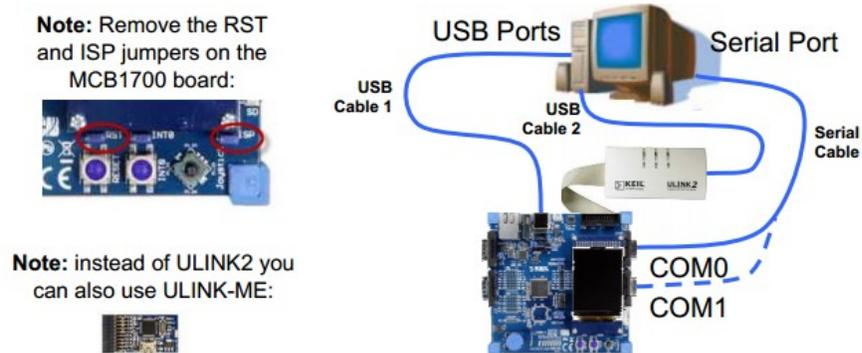

Figure 4 Hardware setup.
Step 1: Connect the board, ULINK2, and the host computer as shown in Fig.4. Ask the TA for the COM0/1 to Serial Port cable.